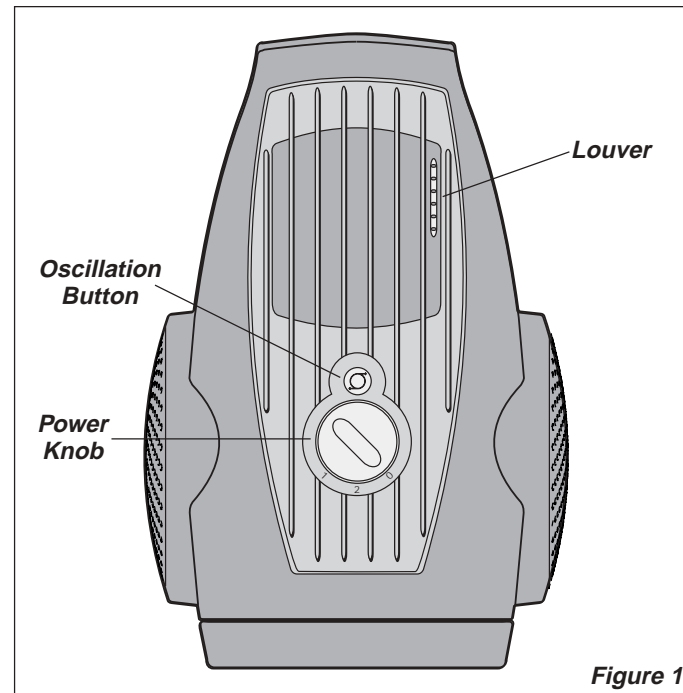

Figure 1
4. Turn the Fan ON by selecting the desired speed with the **Power Knob** on the side of the Fan. (Figure 1)
5. **OSCILLATION:** Press the **Oscillation Button** (O) to start and stop the oscillation function.
7. To turn the Fan OFF, turn the **Power Knob** to OFF (0) and unplug the unit from the electrical unit.